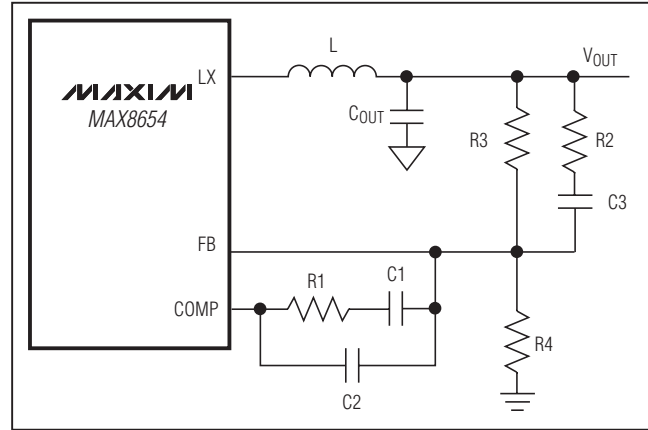

Figure 3. Type 3 Compensation Network
The high-switching frequency range of the MAX8654 allows the use of ceramic-output capacitors. Since the ESR of ceramic capacitors is typically very low, the frequency of the associated transfer function zero is higher than the unity-gain crossover frequency, f_C , and the zero cannot be used to compensate for the double pole created by the output filtering inductor and capacitor. The double pole produces a gain drop of 40dB and a phase shift of 180° per decade. The error amplifier must compensate for this gain drop and phase shift to achieve a stable high-bandwidth, closed-loop system. Therefore, use type 3 compensation as shown in Figure 3. Type 3 compensation possesses three poles and two zeros with the first pole, f_{P1_EA} , located at zero frequency (DC). Locations of other poles and zeros of the type 3 compensation are given by:
Begin by setting the desired output voltage. The output voltage is set using a resistor-divider from the output to GND with FB at the center tap (R3 and R4 in Figure 3). Calculate R4 as: